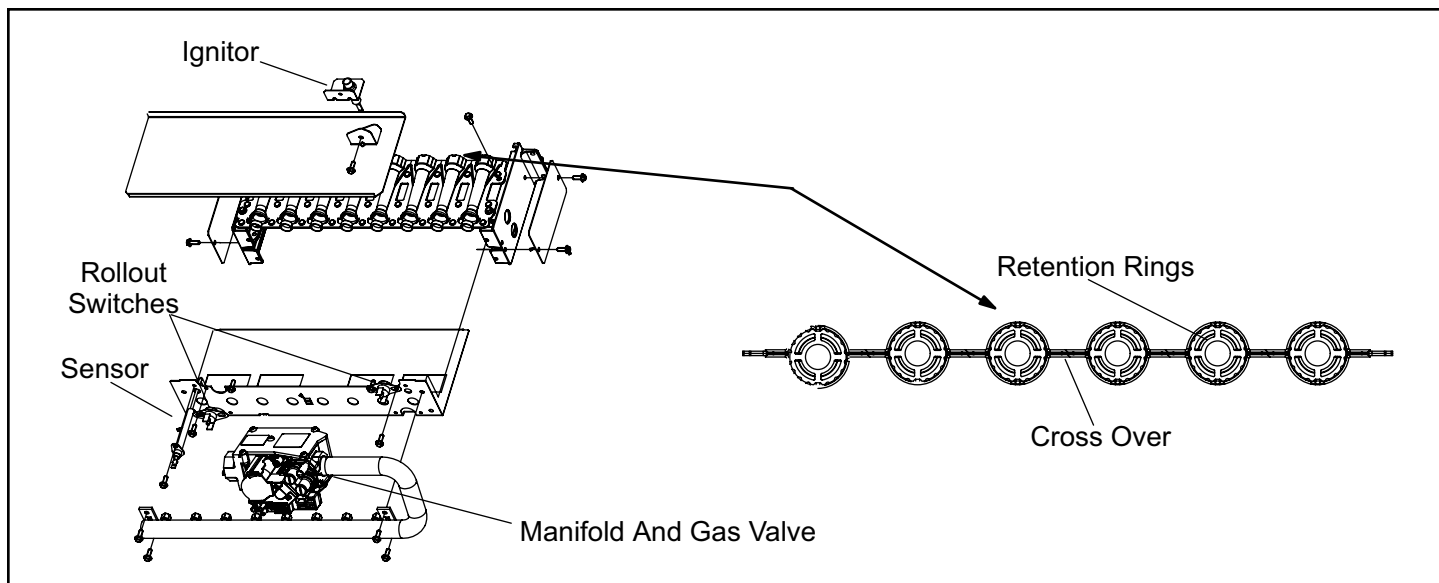

Figure 35. Burner Removal
4. To clean burners, run a vacuum cleaner with a soft brush attachment over the face of burners. Visually inspect inside the burners and crossovers for any blockage caused by foreign matter. Remove any blockage. Figure 35 shows burner detail.